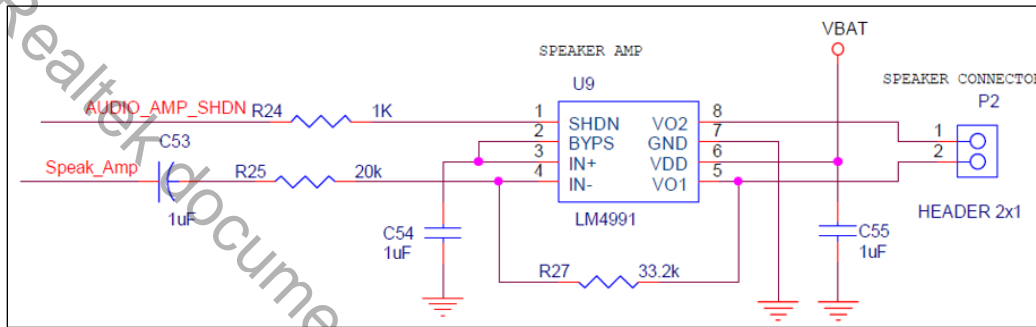

Fig 23-16 Reference design of using AB type power amplifier
- If the power amplifier is an AB type amplifier, refer to the design shown in Fig 23-16 (power amplifier is LM4991).